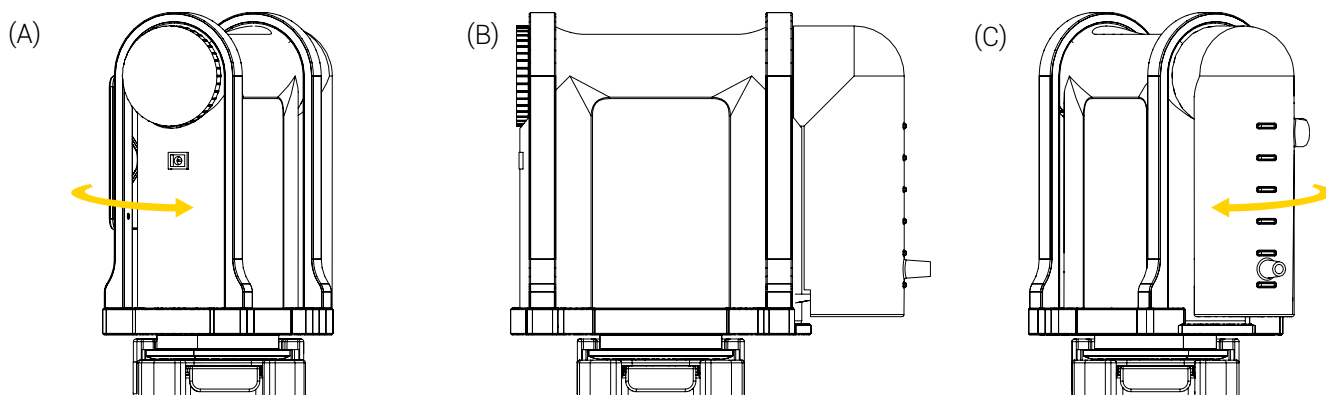

Figure 3: Rotating the Bracket Pro Serie 77 - FL in the Micro Base
4. Turn the medical device clockwise or counterclockwise to the desired position (Figure 3).